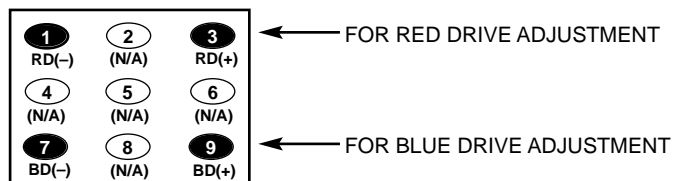

Figure 5. Remote Control Number keys' function in Service Menu No. 072 DRV
12. Adjust Red and Blue Drive Levels alternately with 1, 3, 7, or 9 key to produce normal black and white picture in highlight areas. (See figure 5 below.)